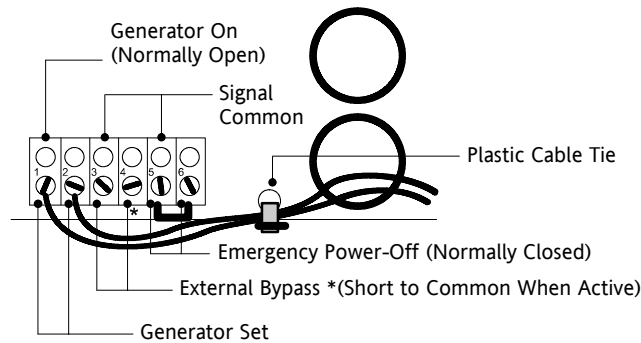

Figure 31. Input Control Signal Wiring
9. If any external hardwired control signals are required (EPO or Generator On), unscrew and remove the top rear panel of the cabinet and locate the terminal block (see Figure 31).